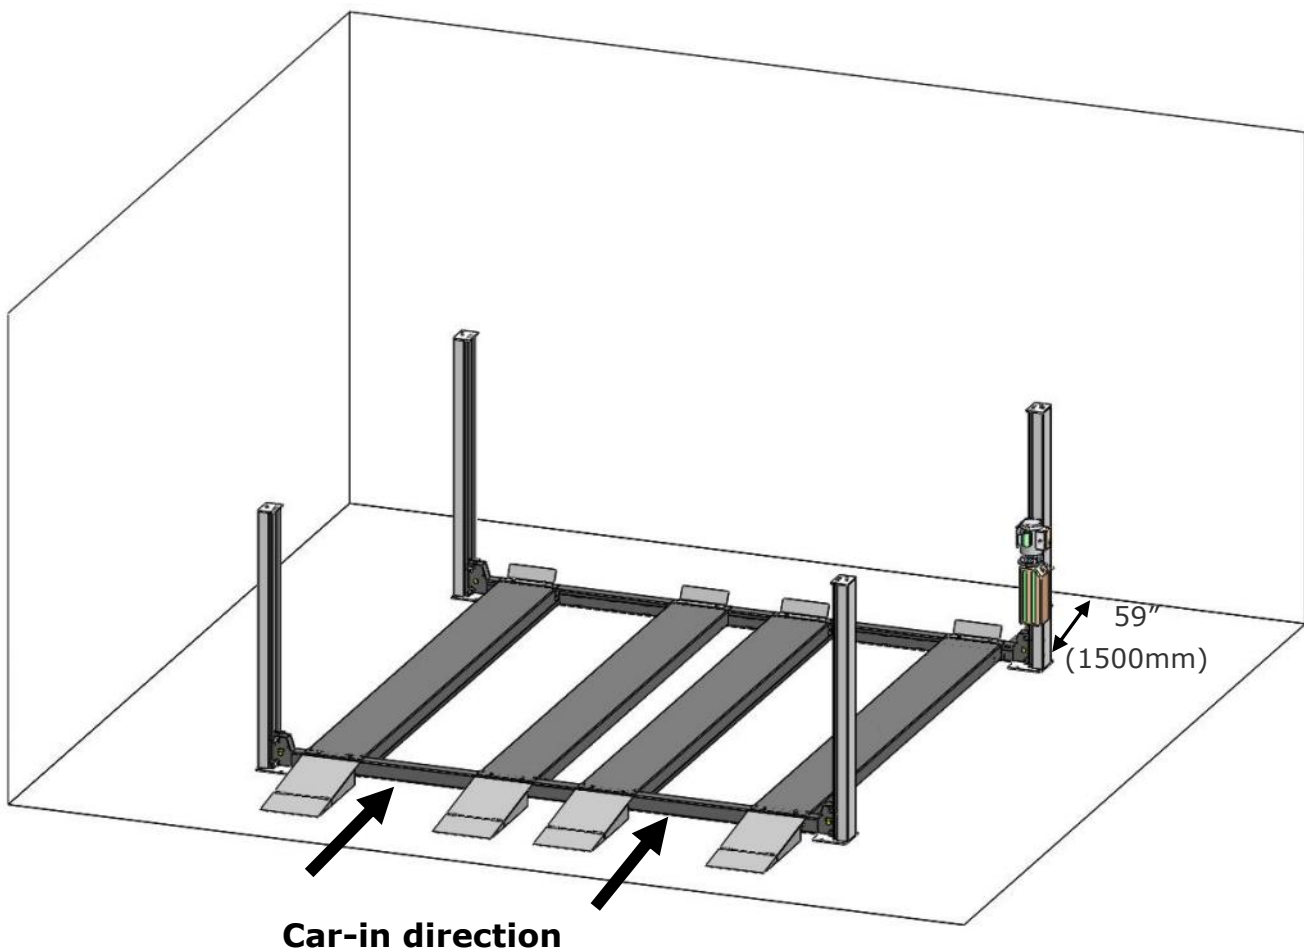

Fig. 7
D. SPECIFICATIONS OF CONCRETE (See Fig. 7)
1. Installation space: Ensure there is enough space for the lift. Accurately measure the front, back, side and top mounting dimensions and refer to the below figure data(**See Fig. 7**).